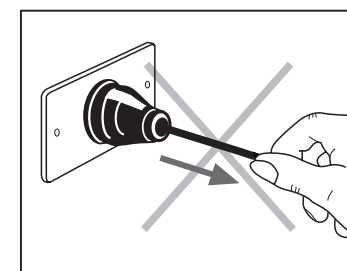

Fig. 2
- Do not tug at the supply lead or at the appliance itself to remove the plug from the wall socket (Fig 2)